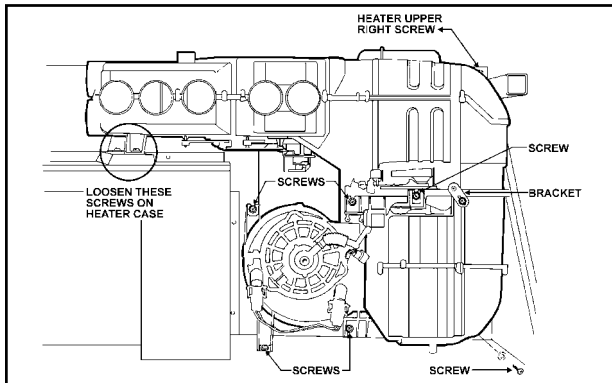

Figure 57: HVAC Screw Location
- Remove bracket from heater to evaporator case. (Fig. 57)
- Remove the six (6) mounting screws and washers holding the blower/cooling unit to the bulkhead. (Fig. 57)